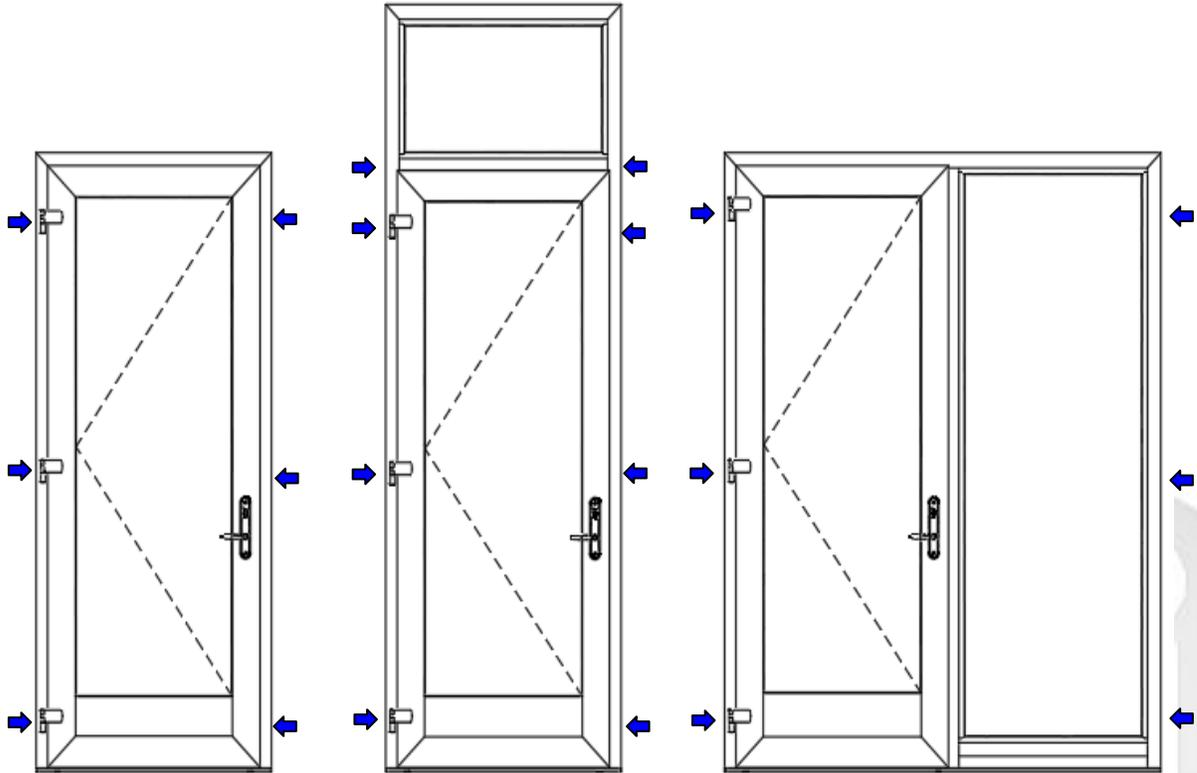

Figure 10: Jamb Shim Locations
- B) Figure 10 illustrates all required jamb shim locations. These are placed at and across from all hinged points, and horizontal intermediate bars. The frame system must be square/plumb and free of any twisting. It is the installers' responsibility to address any rough opening issues that impact proper installation.
- I) Install shims at the jamb locations indicated in figure 10. Shims are required to correctly install the door and prevent distortion or twisting of the frame. Failure to install shims as required will void the warranty.